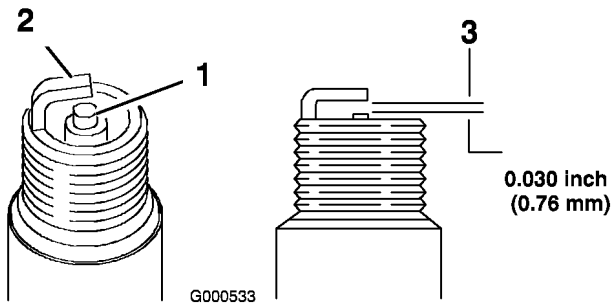

Figure 32
- Look at the center of the spark plug(s) (Figure 32). If you see light brown or gray on the insulator, the engine is operating properly. A black coating on the insulator usually means the air cleaner is dirty.
- Check the gap between the center and side electrodes (Figure 32). Bend the side electrode (Figure 32) if the gap is not correct.